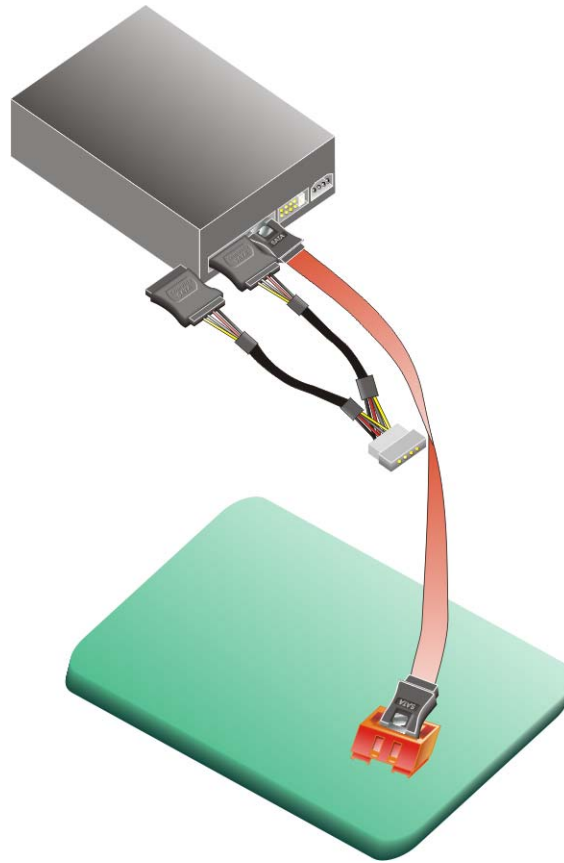

Figure 5-9: SATA Drive Connection
Step 3: Connect the connector on the other end of the cable to the connector at the back of the SATA drive (**Figure 5-9**).
Step 4: Connect the SATA power connector to the back of the SATA drive (**Figure 5-9**).